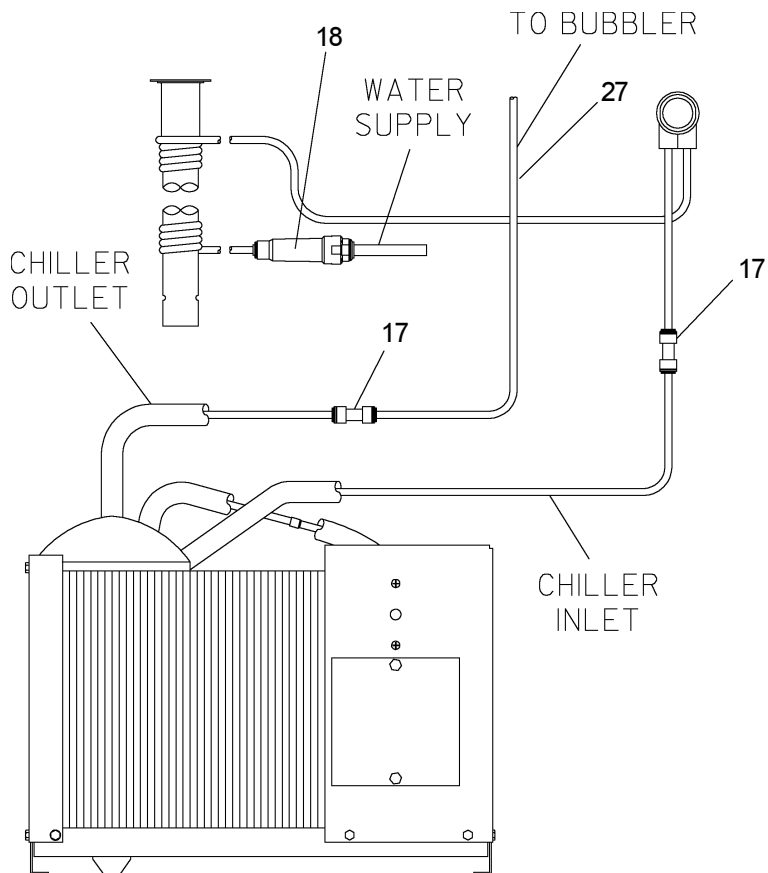

FIG. 3
7. **Connect** the refrigeration package to the supply line service stop valve. Connect supplied fountain (internal plumbing) tubes as shown in figures 3, or 4. Remove any burrs from water tubes before inserting into fittings. (See Fig. 8) **DO NOT SOLDER TUBES INSERTED INTO THE STRAINER AS DAMAGE TO THE O-RINGS MAY RESULT.**